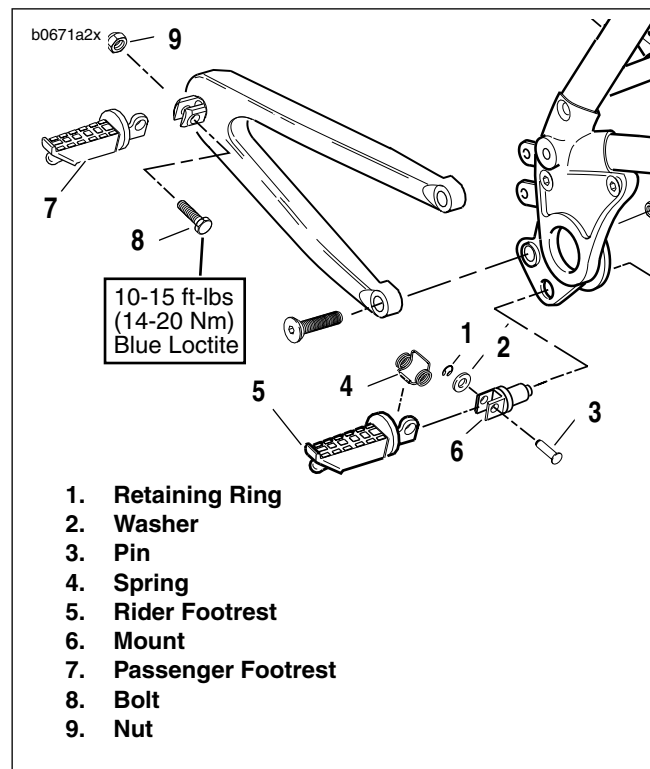

Figure 2-111. Footrests
1. See Figure 2-111. To remove rider footrest.
- a. Remove retaining ring (1) and washer (2) from pin (3).
- b. Hold hand over spring (4) and remove pin, spring and footpeg (5) from mount (6).
2. If necessary, detach passenger footrest (7) by removing bolt (8) and nut (9) from frame mount.
- a. See Figure 2-111. Apply **LOCTITE THREAD-LOCKER 243 (blue)** to footrest bolt (8).
- b. Secure footrest to frame mount with bolt (8) and nut (9). Tighten to 10-15 ft-lbs (14-20 Nm).